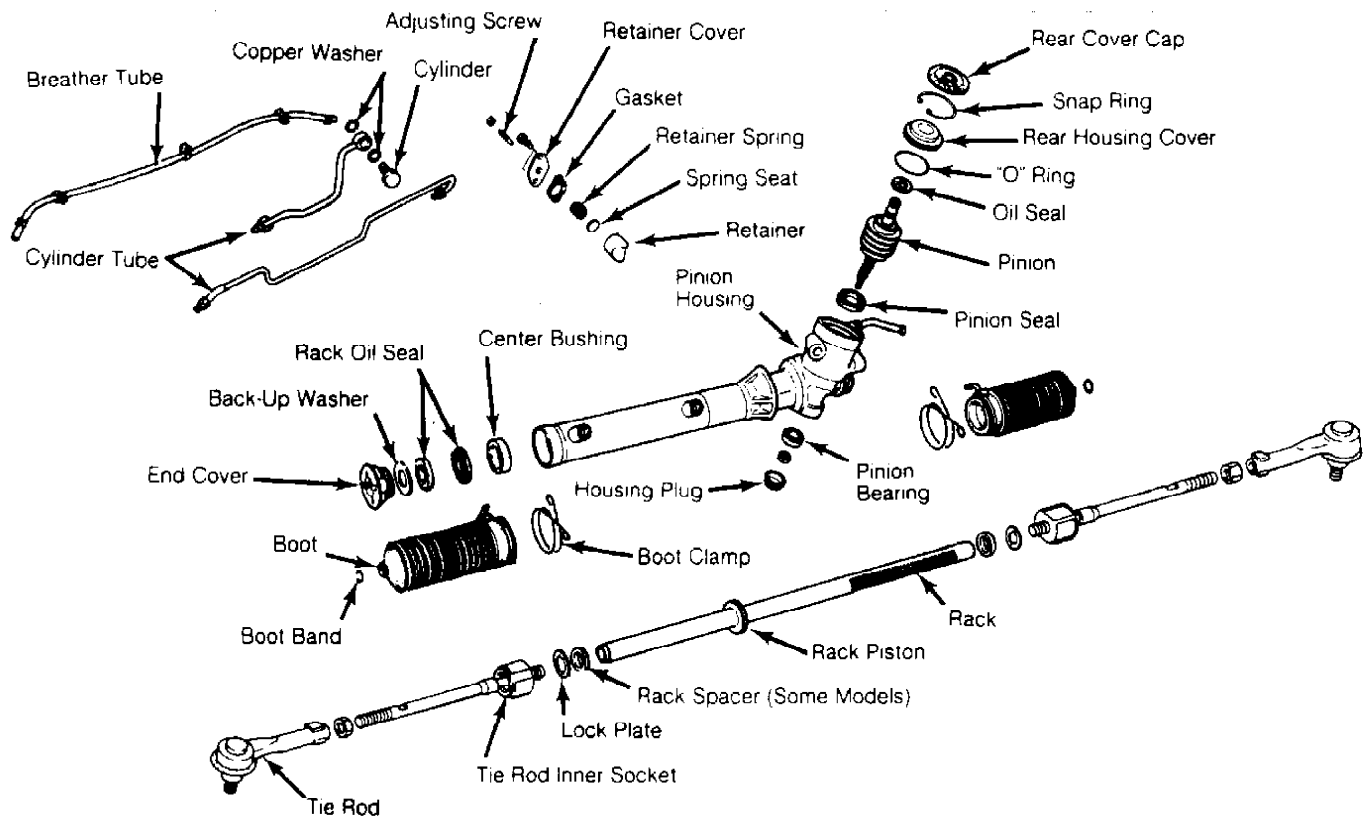

Fig. 2: Exploded View of Steering Gear (Pulsar NX & Sentra)
- 1) Remove breather and cylinder tubes. See Fig. 2. Loosen lock nut and remove outer tie rods. Remove boot band and boot clamp. Bend over lock plate at tie rod inner socket.
- 1) Lubricate rack oil seal and center bushing with ATF and install on rack. DO NOT damage seal with rack teeth during installation. Lubricate rack teeth with grease. Install rack, oil seal and center bushing in cylinder. See Fig. 2.